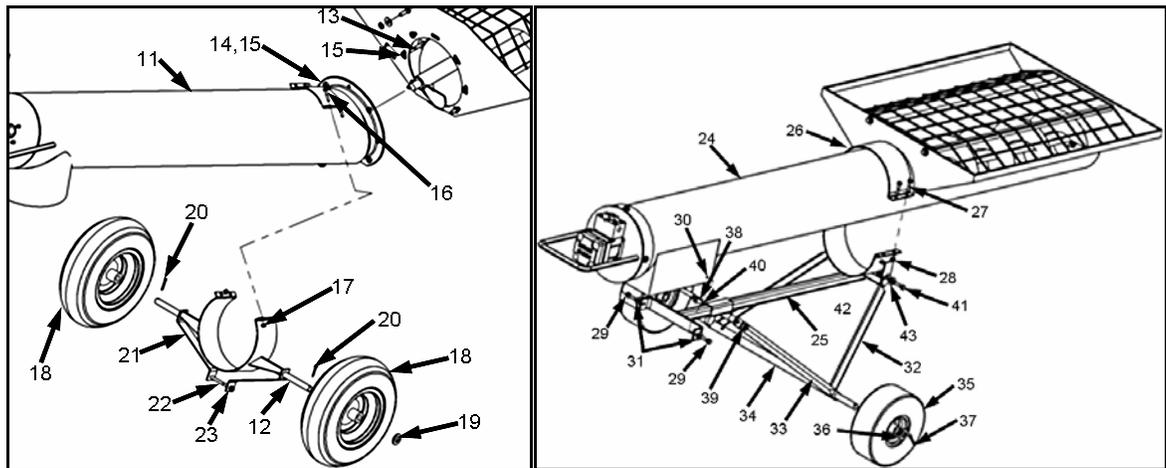

Figure 3.5 A
Refer to Figure 3.5 – 3.8 for assembly of Transfer Augers with hydraulic drive kits.
1. Attach axle (12) to tube (11) with four 5/16" x 1-1/2" bolts (16) and locknuts (17) (see Figure 3.5 A). Locate the axle band so that the hopper is 1/2" off the ground.
2. Install frame stiffeners (21) on axle (12) and secure with bolt (22) and locknut (23).
3. Place wheels (18) on axle (12) and anchor each with a 3/4" washer (19) and cotter pin (20).
4. Refer to Figure 3.5 B for the poly transfer frame assembly.